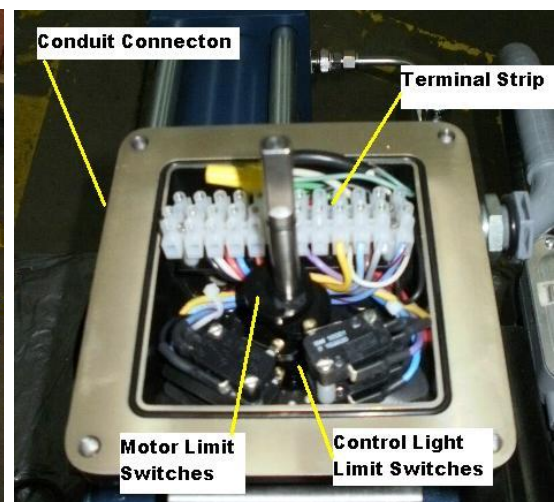
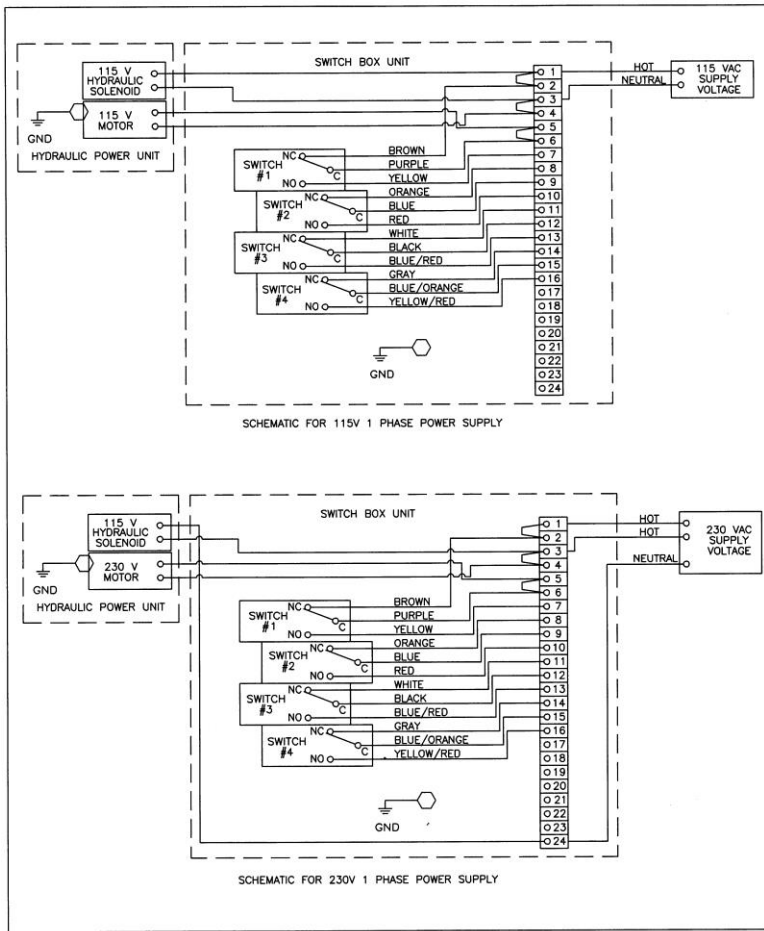

Figure 2
Figure 3
- D. Remove the switch box cover and conduit plug. Install the hot, neutral, and ground wires from the power conduit at terminals 1 and 3 or 1,3 and 24 on the terminal strip depending on supply voltage. (See figures 2 and 3).
- I. If the motor does not shut off just before the actuator reaches fully open, turn off the power, wait for the valve to close, and adjust the motor limit switch cam by pressing the cam down slightly and turning it in the appropriate direction. The uppermost cam controls the closed limit switch. Repeat step “F” and verify the motor shuts off. (See figure 2).
The switch box has 4 adjustable limit switches (see figure 2). The Two upper switches control the HPU motor. (Only one of the two switches is used for spring return actuators). The two lower switches can be used by the customer to provide actuator position feedback for control panel lights or other instruments. Refer to the schematic in Figure 3 for wiring information.